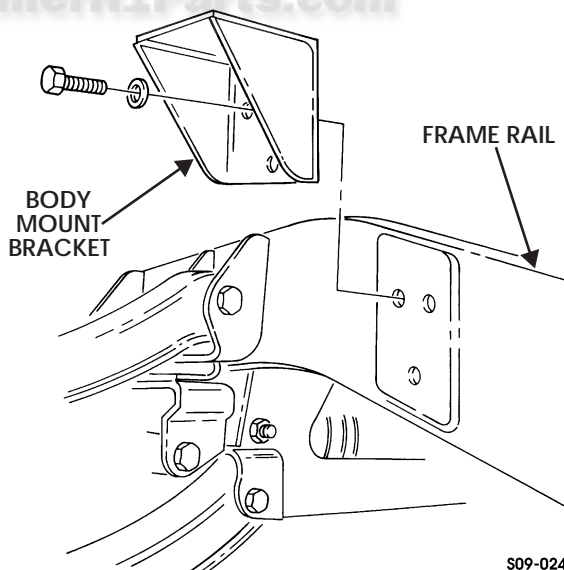

Figure 9-36: Right Intermediate Body Mount Bracket
2. Remove three capscrews, washers, and body mount bracket from frame rail (Figure 9-36).
ers and capscrews. Tighten capscrews to 90 lb-ft (122 N•m) (Figure 9-36).